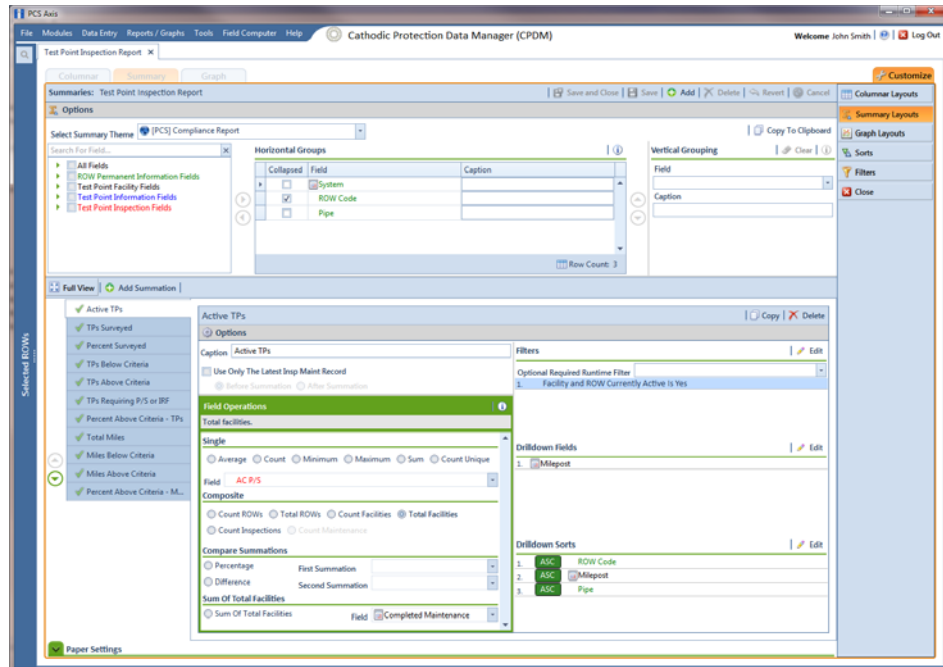

Figure 16-33. Summary Layouts
- 4 Click the **Summary Layouts** button  to open the *Summaries* page (Figure 16-33, page 709).